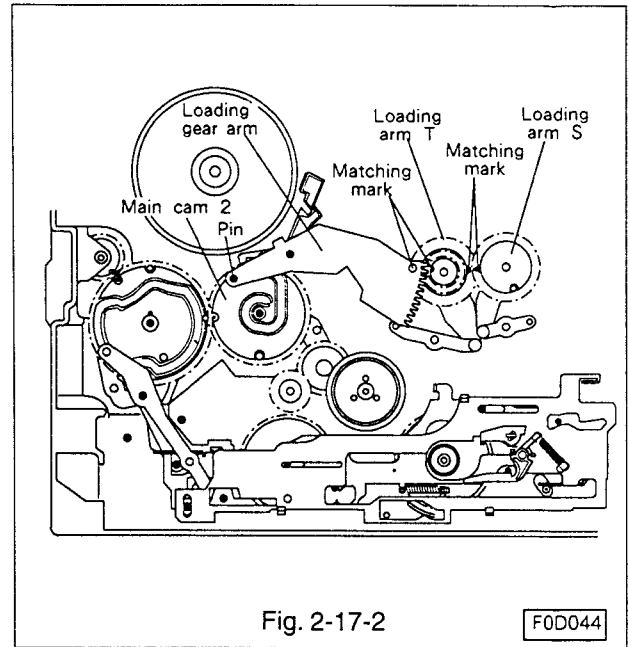

Fig. 2-17-2
- E. Remove the grip ring and remove the loading gear arm.(Refer to Fig. 2-17-2.)
- F. Turn the loading arm S and T to the loading position.(Refer to Fig. 2-17-2.)
- B. If the takeup tape guide is replaced, install the loading arm T at first.(Refer to Fig. 2-17-2.)
- C. Install the loading arm T so that the matching mark of the loading arm S is lined with the matching mark of the loading arm T as illustrated in Fig. 2-17-2.